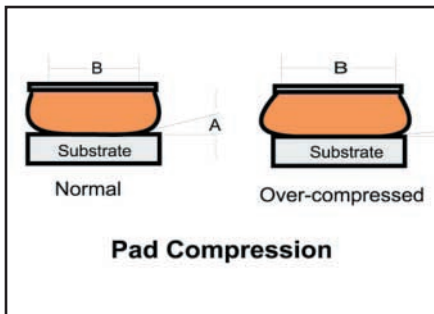

Figure 1
Figure 1 shows normal and over-compression. In both illustrations Dimension A is the angle, and Dimension B is the image width (or diameter). In normal compression the angle (A) is still high when the pad is compressed far enough to pick up the image (B). In over-compressing the same pad to pick up the larger image (B), the angle (A) is now lower, increasing the chance of trapping air.